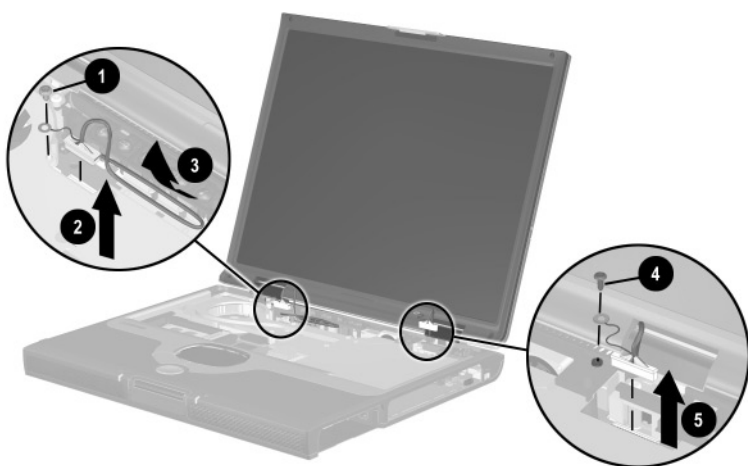

Figure 5-23. Removing the Display Screws and Disconnecting the Display Cables
4. Remove the TM2.5 × 5.0 screw ❶ that secures the display video ground cable to the heat spreader (Figure 5-23).
5. Disconnect the display video cable ❷ from the system board.
6. Remove the display video cable from the routing channels in the heat spreader and the top cover ❸.
7. Remove the TM2.5 × 5.0 screw ❹ that secures the display inverter ground cable to the heat spreader.
8. Disconnect the display inverter cable ❺ from the system board.